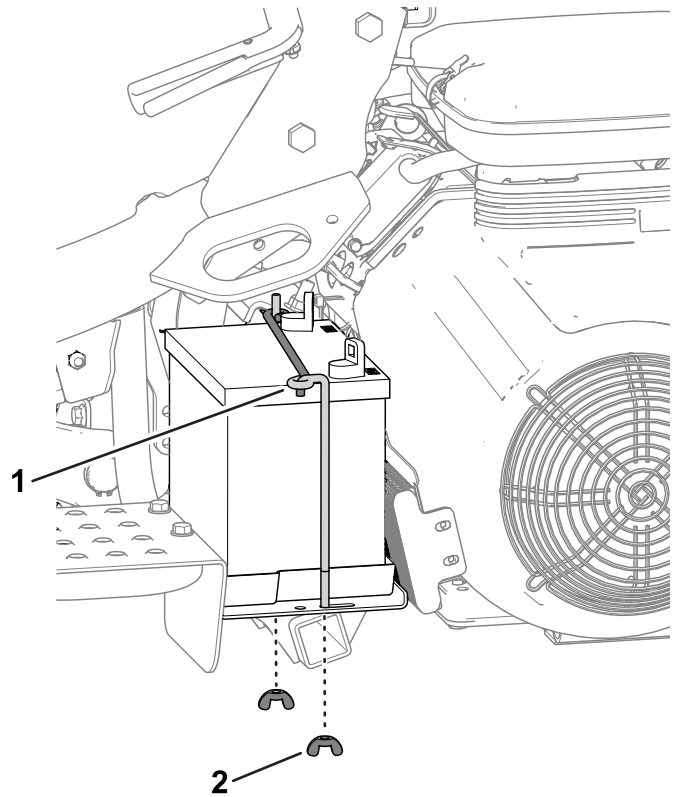

Figure 35
5. Place the battery on the battery tray and secure it with the previously removed rods and fasteners (Figure 35).
2. Remove the wing nuts and rods that secure the battery to the platform (Figure 35) and lift out the battery.